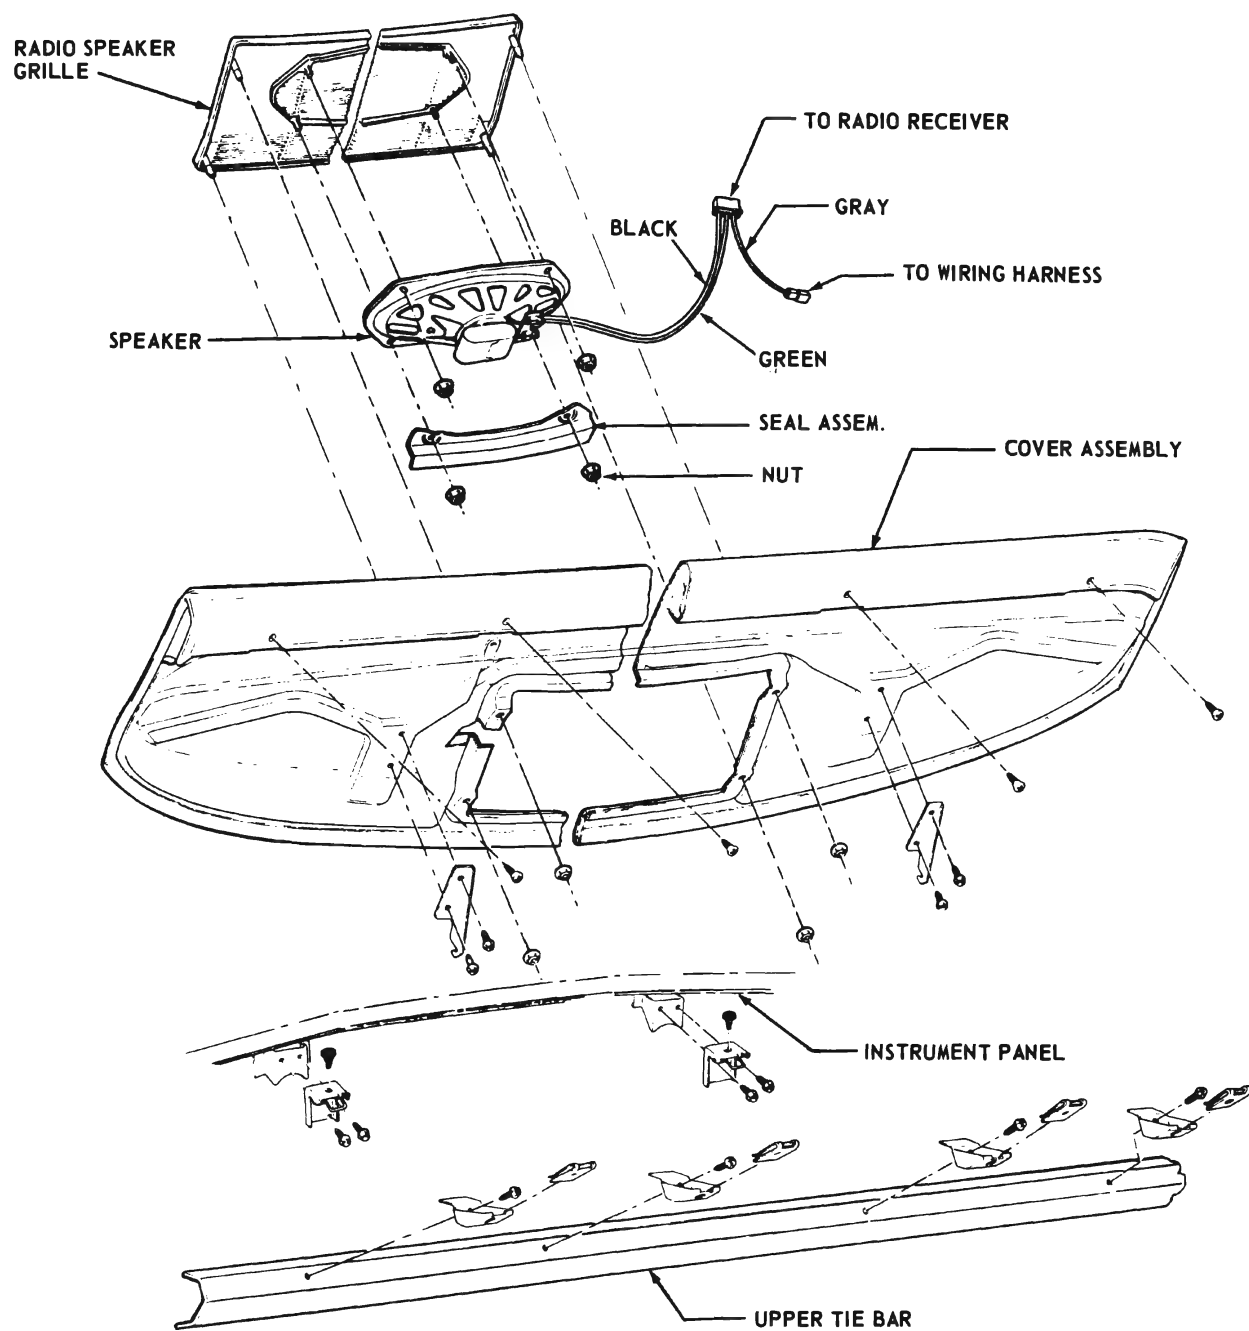

Figure 11-20—Front Radio Speaker Installation - 4700 Series
1. Remove four screws from front underside of instrument panel cover assembly (see Figure 11-20) and partially remove cover assembly by pulling assembly rearward until edge of upper tie bar is cleared, and then raising cover as far as possible.